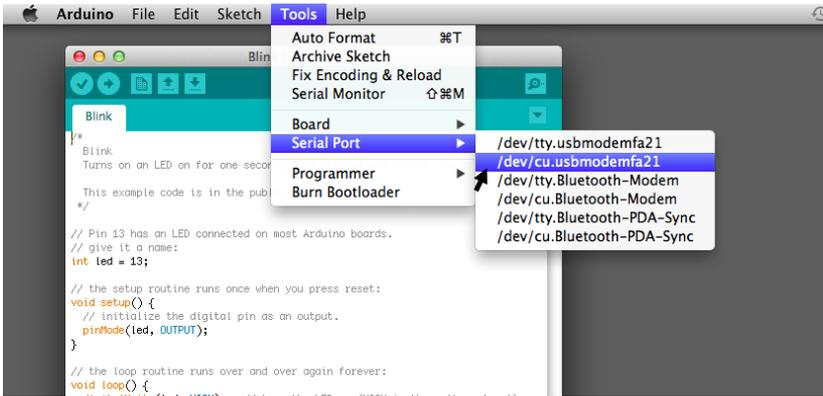

Figure G-2. Choose the serial port that begins with “/dev/cu.usbmodem”
7. Within the IDE, click *Tools*→*Serial Port* and select the serial port that starts with `/dev/cu.usbmodem` (see Figure G-2) The last few digits will likely be something else. Do not select the one beginning with `/dev/tty`.